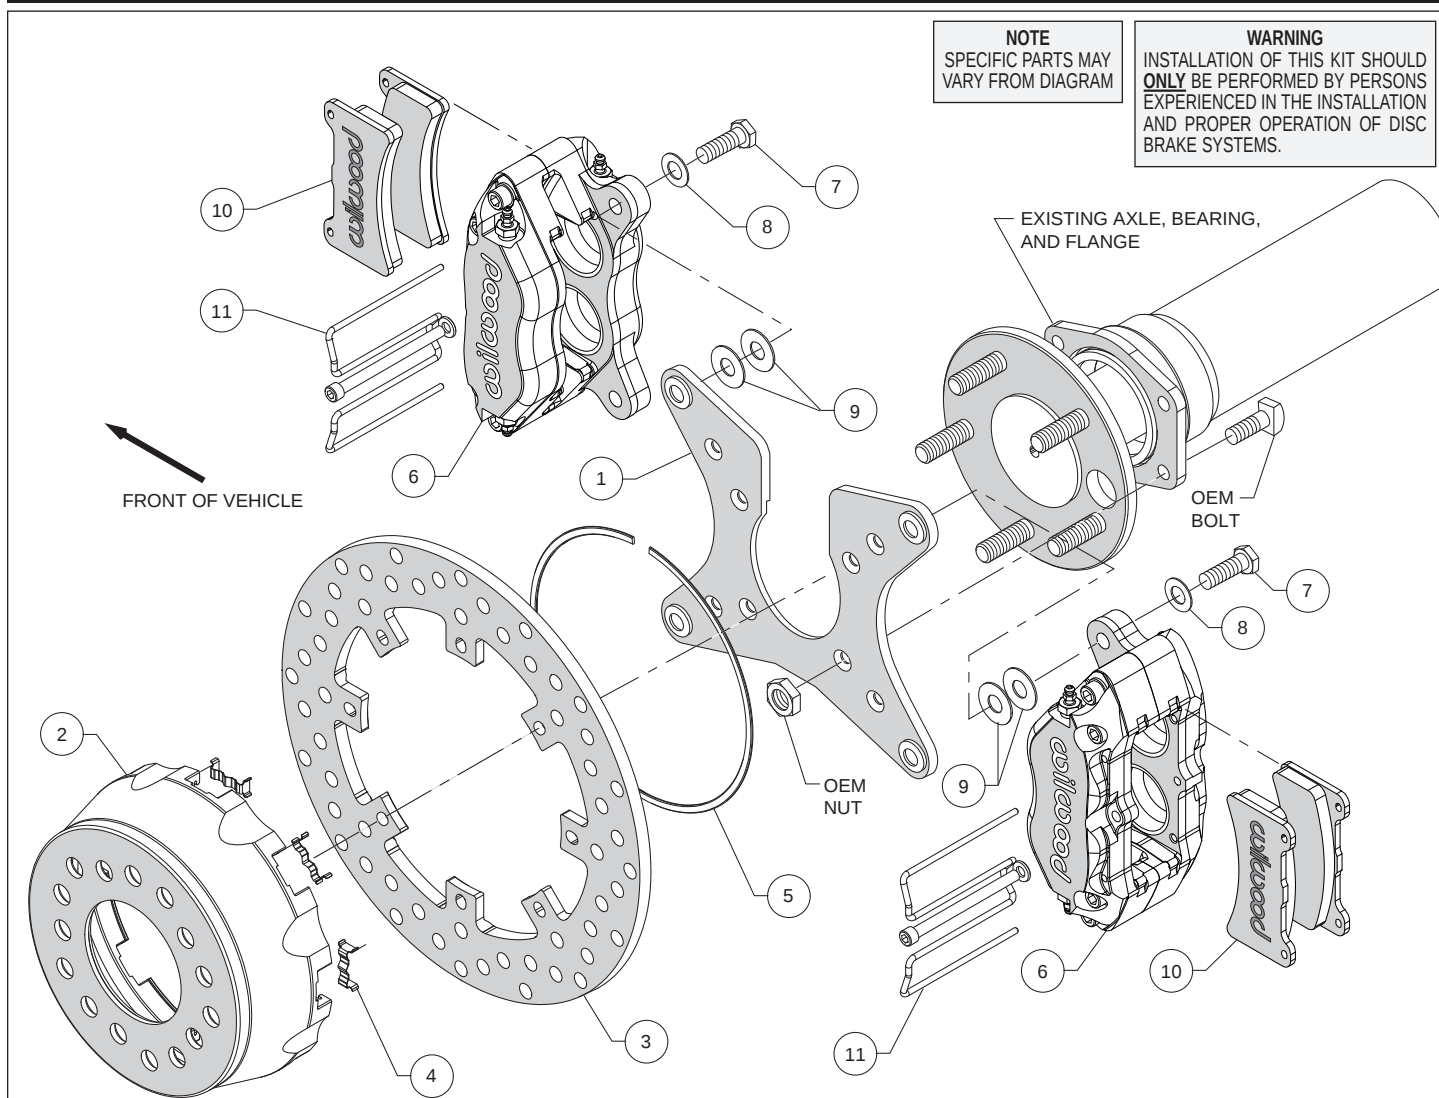
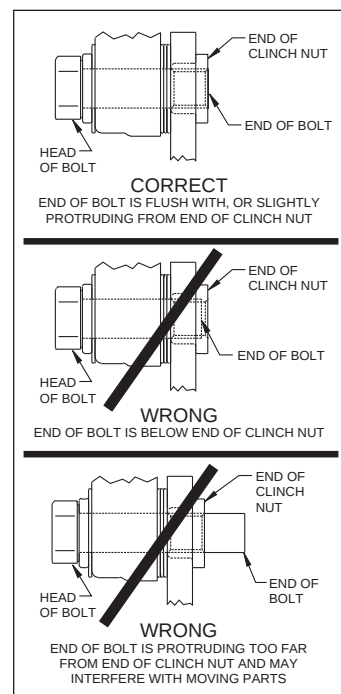

Figure 1. Typical Installation Configuration
Figure 5. Clinch Nut Engagement Diagram
Assembly Instructions (numbers in parenthesis refer to the parts list and Figure 1 on the preceding pages): **CAUTION:** All mounting bolts must fully engage clinch nuts. Be sure to check that all bolts are either flush or protruding through flanged side of clinch nut after shimming, Figure 5.
- Install the caliper mounting bracket (1), with the slot for the axle pointing upward, to the housing flange using the OEM bolts and nuts, as shown in Figure 1 and Photo 1. Ensure that the caliper mounting ears on the bracket are oriented fore and aft on the car, with the heads of the clinch nuts facing outboard, Photo 1. Apply red *Loctite*® 271 to the OEM bolt threads and torque to OEM specifications.
- Insert the dynamic mount wear clips (4) into the slots in the hat (2) making sure the tabs snap in place, Photo 2. Orient the rotor (3) as shown in Figure 1 and Photo 3, with the flush mount tab side facing the hat. Attach the rotor to the hat using snap ring (5) by pushing down on the rotor and installing the ring into the groove in the hat, as shown in Photo 4. Ensure that the ring is fully engaged in the groove.
- Align the correct hole pattern in the hat (2) with the axle stud pattern and slide the hat/rotor assembly onto the axle hub. **NOTE:** The hat must fit flush against the axle flange or excessive rotor run out may result. Install three lug nuts (finger tight) to keep the hat/rotor in place while continuing with the installation. **NOTE:** Some OEM and aftermarket axles come with stud sizes larger than 0.50" diameter. Verify stud size, and if necessary, have a qualified machine shop drill the hats to the correct size.
- NOTE:** Please reference the caution statement at the beginning of the assembly instructions. Mount one caliper (6) onto the mounting bracket (1) using bolts (7) and washers (8), as shown in Figure 1. Initially place two .035" thick shims (9) on each bolt between the caliper and the bracket, Photo 5. Temporarily tighten the mounting bolts and view the rotor (3) through the top opening of the caliper. The rotor should be centered in the caliper, Photo 6. If not, adjust the caliper by adding or subtracting shims between the bracket and the caliper. Always use the same amount of shims on each of the two mounting bolts. **NOTE:** The end of each bolt must be flush with or slightly protruding from the head of the clinch nut. If necessary, place spare shims between washer and caliper mounting ear to achieve the proper clinch nut engagement, as shown in Figure 5. Once the caliper alignment